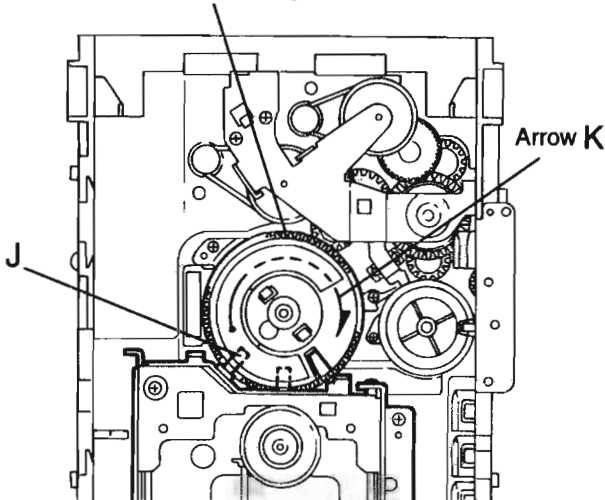

Fig.11
**Removing the CD traverse mechanism (See Fig.11 and 12 )**
1. For dismounting only the CD traverse mechanism without removing the CD loading mechanism assembly, align the shaft "J" of the CD loading mechanism assembly to the position shown Fig.11 while turning the cam R1 and R2 assembly in the arrow direction "K" .